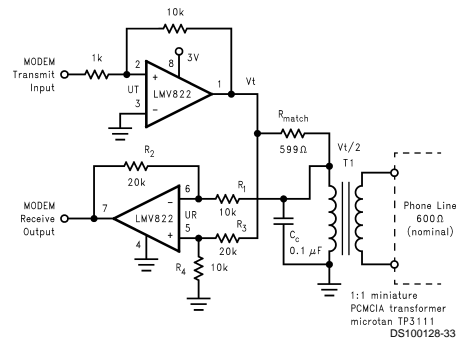

FIGURE 7. Telephone-line Transceiver for a PCMCIA Modem Card
The telephone-line transceiver of Figure 7 provides a full-duplexed connection through a PCMCIA, miniature transformer. The differential configuration of receiver portion (UR), cancels reception from the transmitter portion (UT). Note that the input signals for the differential configuration of UR, are the transmit voltage (V_t) and $V_t/2$. This is because R_{match} is chosen to match the coupled telephone-line impedance; therefore dividing V_t by two (assuming $R_1 \gg R_{match}$). The differential configuration of UR has its resistors chosen to cancel the V_t and $V_t/2$ inputs according to the following equation: